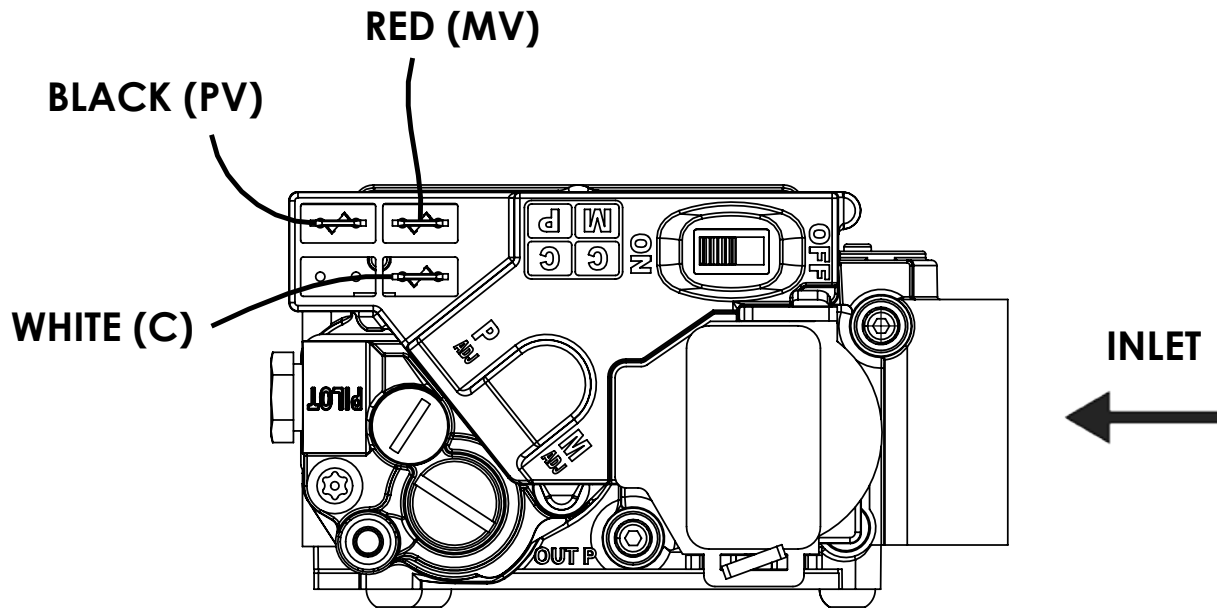

Figure 6.6: Gas Valve Wiring - White Rodgers 36G
13. Use the sequence description in Figure 6.6 in Section 6 (Electrical) to follow light-off and shutdown sequences and to assist in diagnosing problems. If the boiler does not function properly, consult Section 8, Troubleshooting.